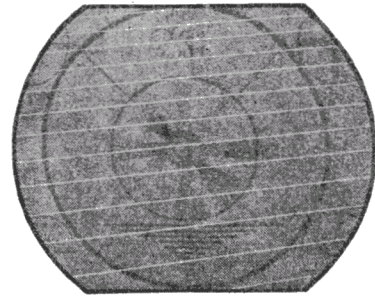

Figure 4. Adjust CONTRAST or BRIGHTNESS.
- Better pictures may sometimes be obtained by changing the settings of the BRIGHTNESS and CONTRAST controls. See Figures 4, 5 and 7. Set the BRIGHTNESS control at a slightly different position and then adjust the CONTRAST control for best reception. Try several such control settings to determine the ones giving the most satisfactory picture.